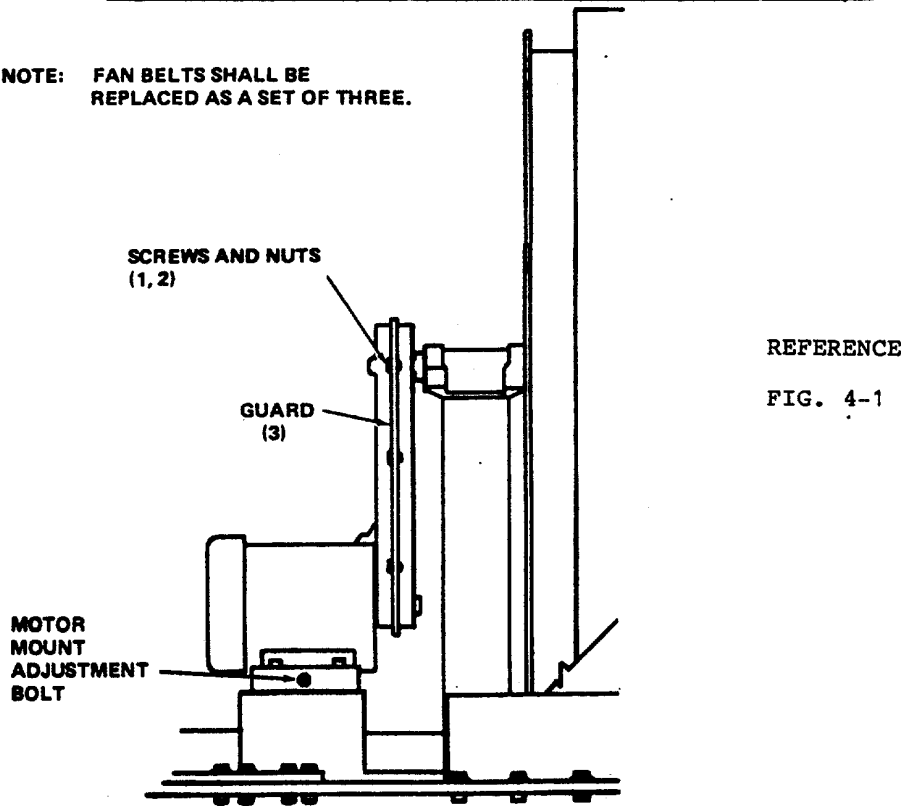

Figure 4-28. Fan Belt Adjustment and Replacement, Code A
(1) Refer to figure 4-28 and remove two halves of fan belt guard (3) by removing screws (1) and nuts (2).
(2) Check tension of each of the three fan belts (see figures 4-1 and 4-28). Apply thumb pressure at center of belt and check for no more than 1/2 inch (13 mm) movement, as shown in figure 4-28.
(3) If belts require tensioning, tighten motor mount
adjustment bolt (see figure 4-28) to increase belt tension.
- (1) Remove two halves of belt guard (3, figure 4-28) by removing six screws (1) and nuts (2).
- (2) Loosen motor mount adjusting bolt and relieve tension on belts. Remove by manually rotating fan.
- (3) Install new belts, and adjust for proper tension.
- (4) Replace belt guard.